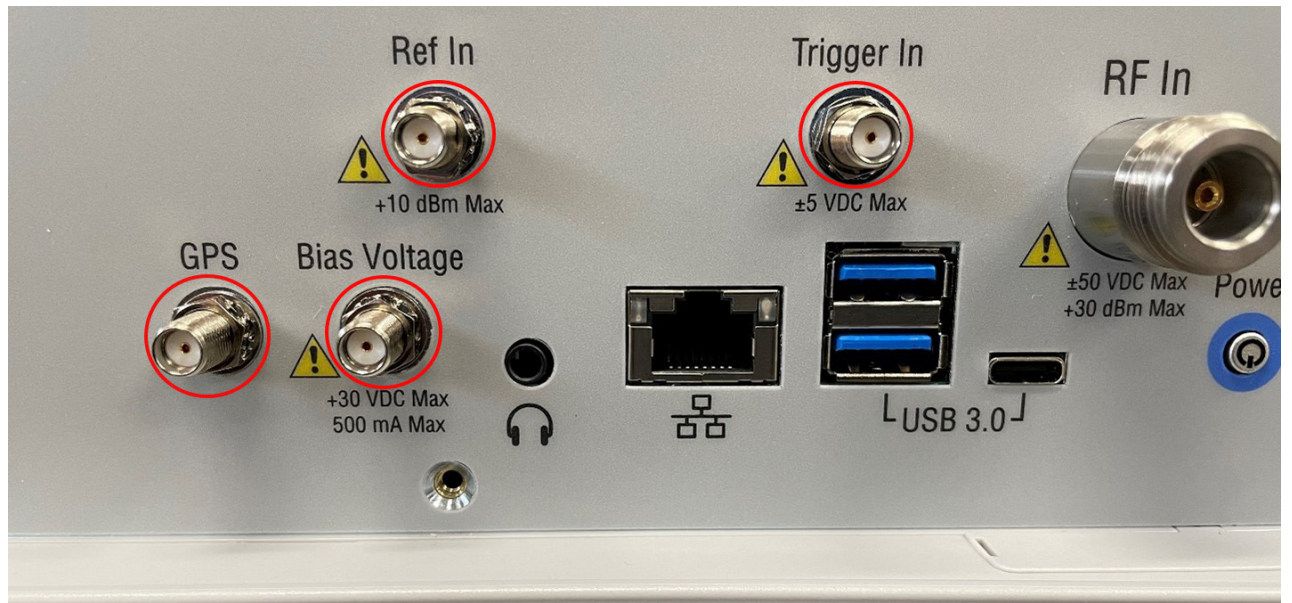

Figure 5-14. SPA PCB Removal
1. Remove the four nuts along with four lock washers from the SMA ports on the top connector panel using a 5/16" wrench. See Figure 5-14.